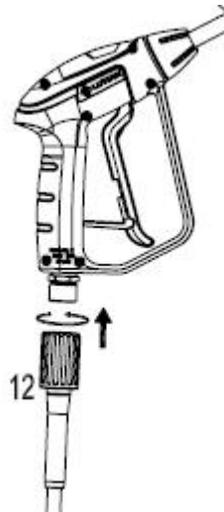

Fig.5
Screw the high pressure hose (12) to the gun. Push and turn (clockwise) it tight to avoid leakage. When the pieces are joined properly, you cannot separate the two components by pulling straight out from the gun (6). Remove (counterclockwise) rotation. (Fig.5)